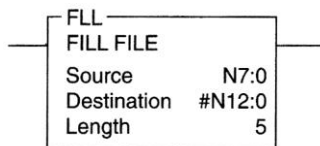

Figure 10-24 FLL instructions for question 39.
39. The FLL instruction shown in Figure 10-24, when true, tells the processor to (a) _____ the value of word N7:0 into the first (b) _____ words of (c) _____ N12:0. 39a. _____